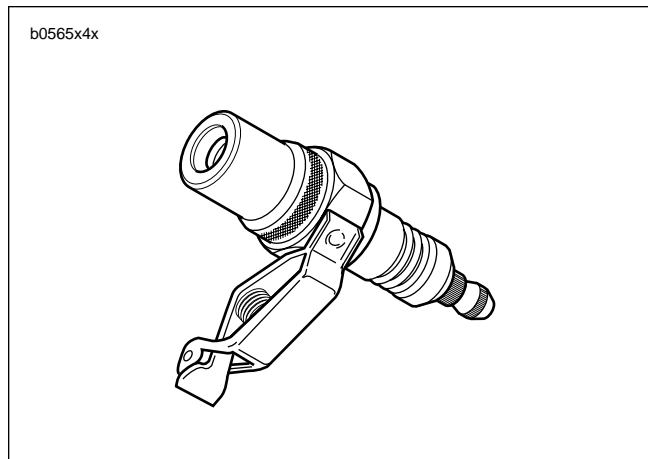

Figure 4-30. Spark Tester (Part No, HD-26792)
1. See Figure 4-30. A SPARK TESTER (Part No. HD-26792) must be used to verify adequate secondary voltage (25,000 volts) at the spark plug.